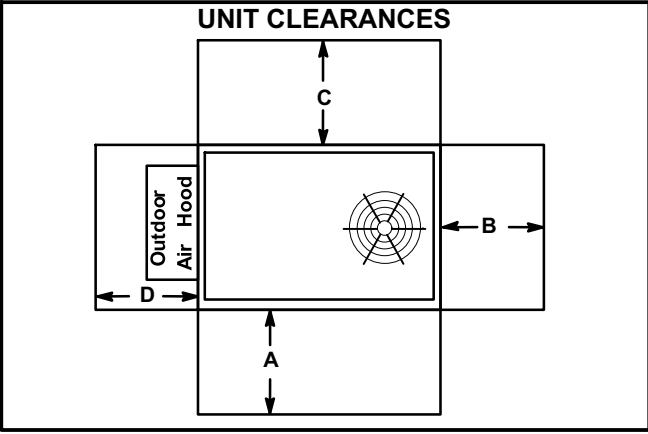

FIGURE 1
The KH unit is ETL/CSA certified as a heat pump with cooling and with or without auxiliary electric heat for non-residential use only at the clearances to combustible materials as listed on the unit nameplate and in figure 1.
- 2- Specified installation clearances must be maintained when installing units. Refer to figure 1.